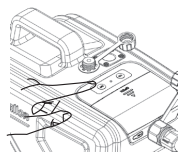

Fig.8
1. Turn off the power, stop fueling as shown in Fig.8